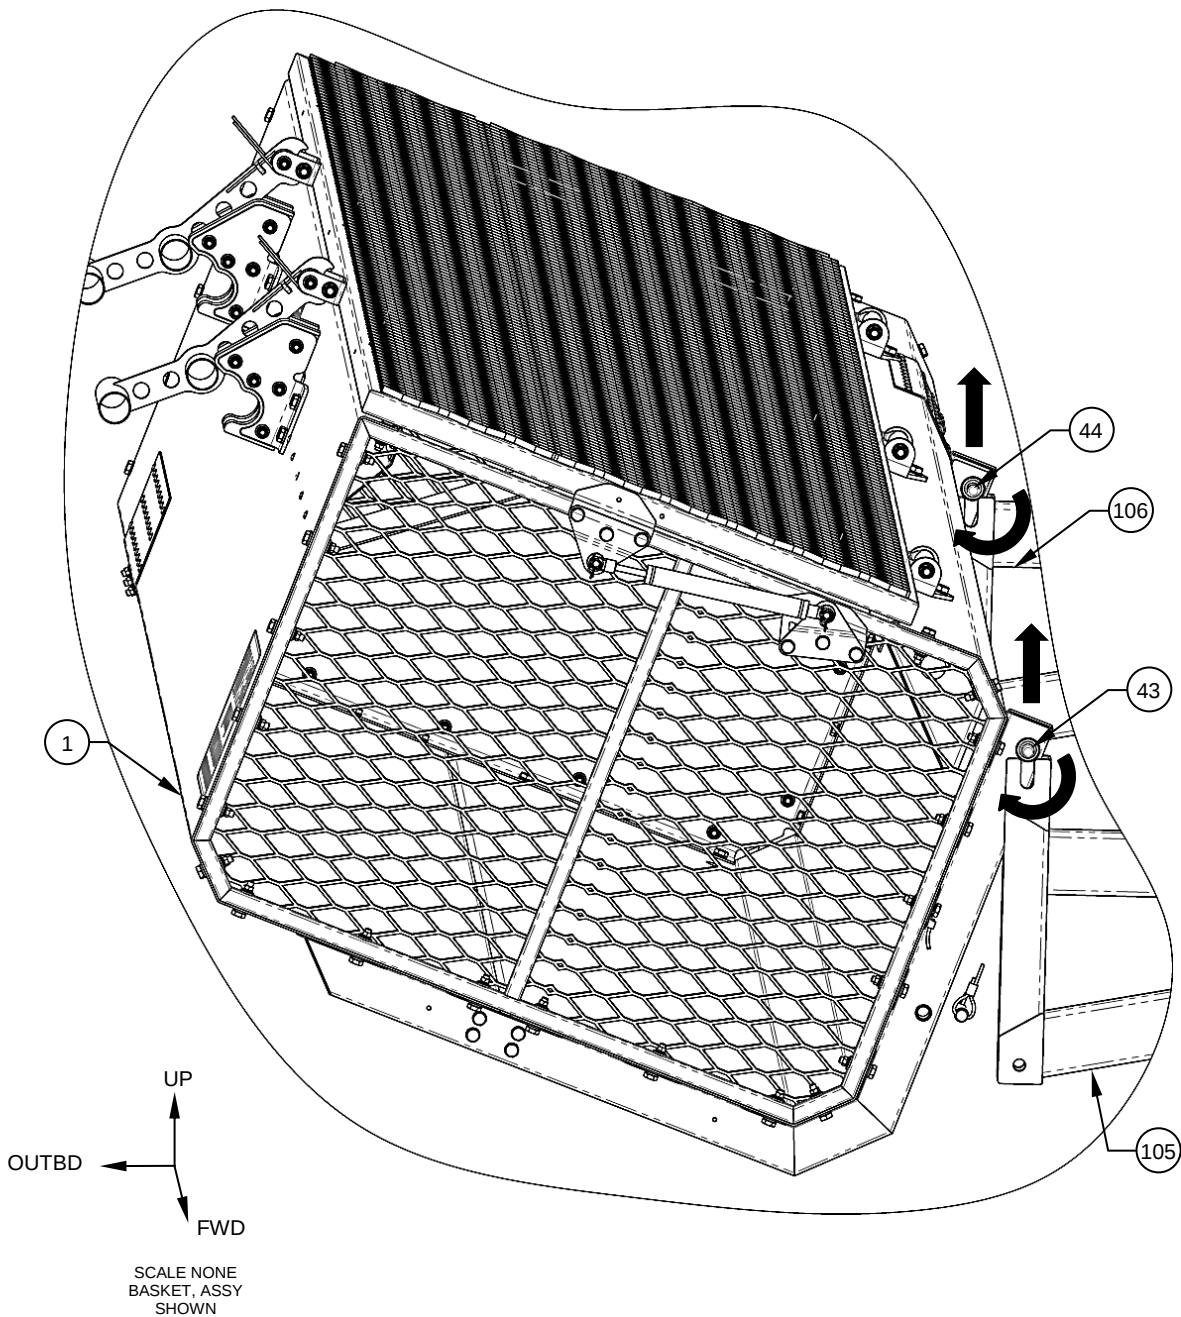

Figure 3
3. Remove the Utility Basket, Assy, (Item 1) from FWD & AFT Attachment Arm, Assys, (Items 105 & 106), by slightly rotating the basket around the pins on the FWD & AFT Support, Assys, (Items 43 & 44), and then lifting it up to be completely disengaged from the aircraft. Reference Figure 3.